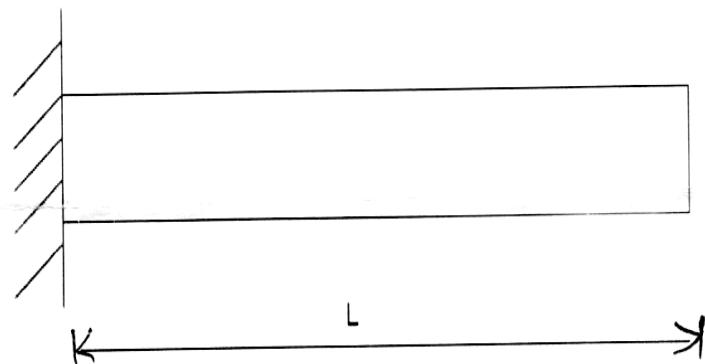

Fig. 4
- Q8) a)** Find the natural frequency of bar using lumped mass matrix method. Use following data  $E = 2 \times 10^{11} \text{ N/m}^2$ ,  $\rho = 7800 \text{ kg/m}^3$  and  $L = 1\text{m}$ . Considered 1 element only. The bar is shown in Fig.4. [12]